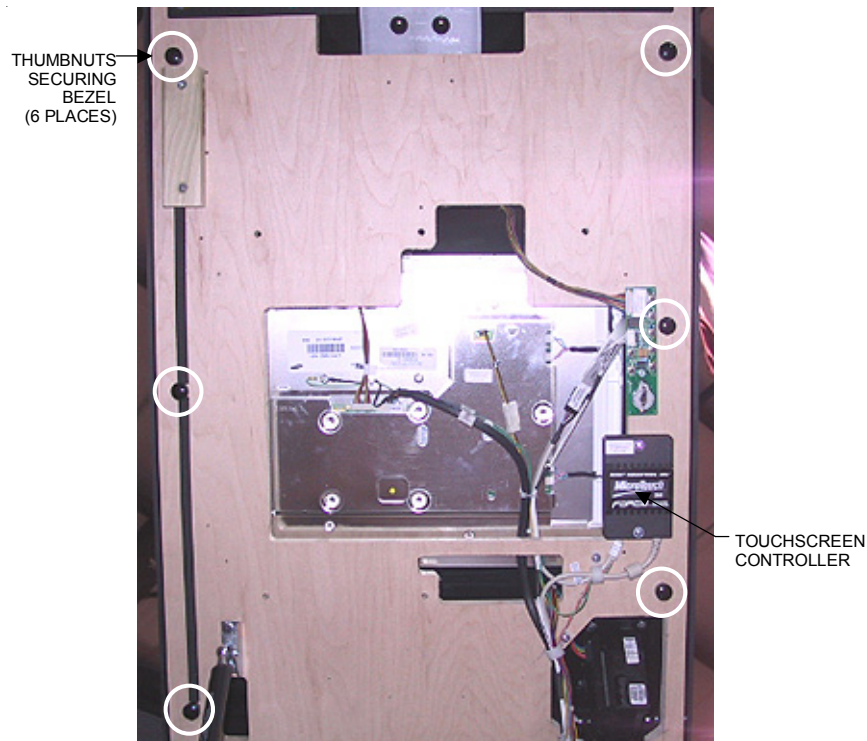

FIGURE 11 - UNDERSIDE OF BEZEL
3. Remove the 6 thumbnuts fastening the bezel to the game (see Figure 11) and remove the bezel.
4. Remove the cable clamps securing the touchscreen cable and the touchscreen power harness, then remove the screws fastening the touchscreen controller (see Figure 11) to the game and disconnect the cable from the back of the controller. Locate and disconnect the Molex connector (orange and gray wires) running from the touchscreen controller cable to the main power harness, and also disconnect the ground screw.
7. Connect the touchscreen cable in the back of the controller (see Figure 11) and secure the controller with the existing hardware. Also connect the Molex connector (orange and gray wires) to the main power harness (after routing the wires through the cable clamps) and attach the ground screw.